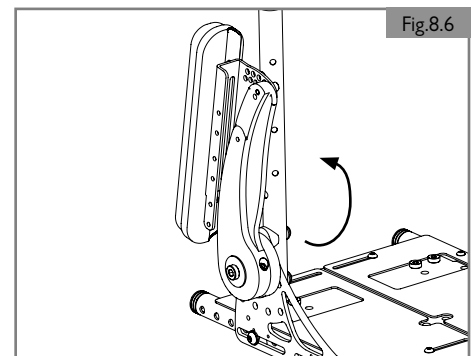

Fig.8.6
8.6 Cantilever armrest (Fig 8.6)